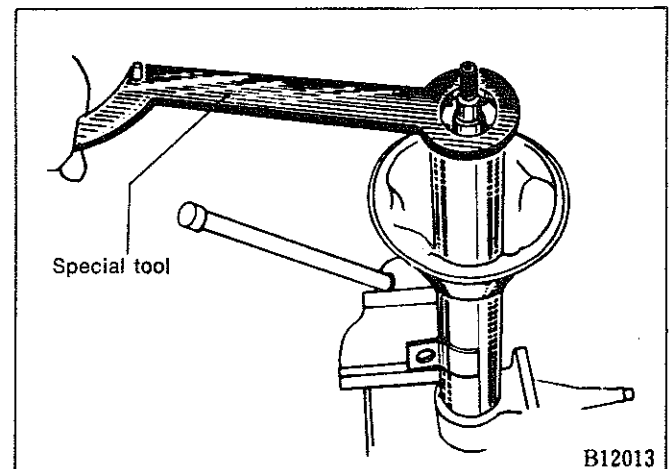

Fig. 9—Removing shock absorber seal assembly/locking ring
(4) If the check of strut sub-assembly (shock absorber) indicates oil leakage, disassemble it in the following manner and replace defective parts or the assembly as necessary. On locally produced struts the complete cartridge assembly should be replaced (the top seal is an integral part of the cartridge).
(5) Before disassembly, thoroughly remove dirt from the outside walls of the strut sub-assembly. Use care not to permit dirt into the cylinder or the fluid during the disassembly work.
(6) Securely hold the strut sub-assembly vertically and using special tool (E2M 10B imported strut or E2M 10C local), remove the shock absorber seal assembly/locking ring. On imported strut assemblies push the piston rod to its lowest position while carrying out this work (Fig. 9), (the piston rod on the local production strut will extend fully when released).